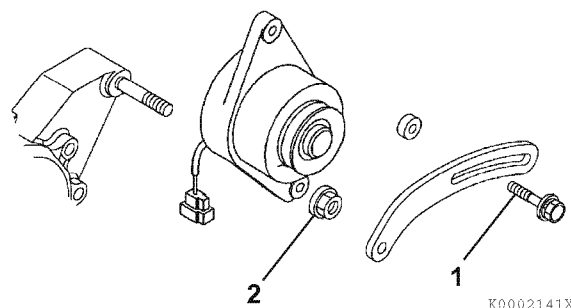

Figure 12-29
1. Position the dynamo on the gear case. Loosely reinstall the nut (2, **Figure 12-29**) on the gear case stud and the V-belt adjuster bolt (1, **Figure 12-29**).